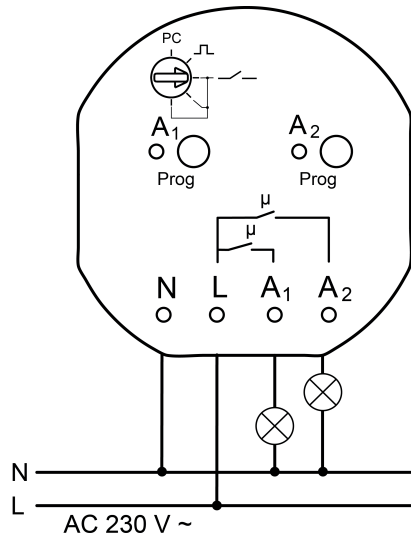

Figure 2: Connection example
- Connect loads as shown in the wiring example (Figure 2).